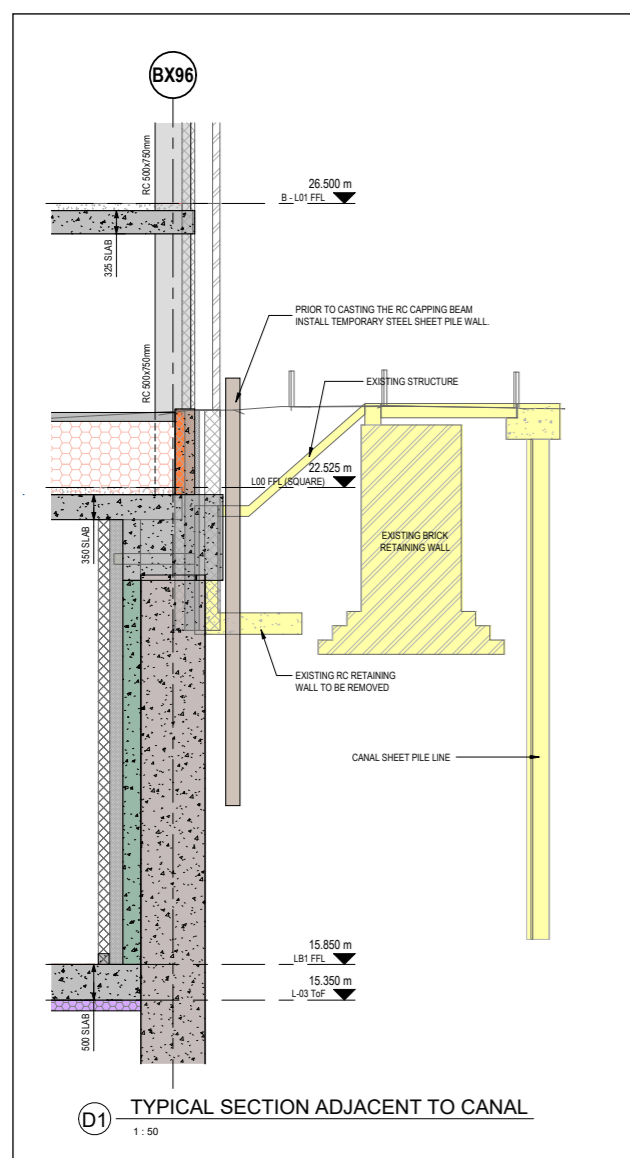

Figure 06: Section showing existing retaining wall to be removed.
- 25 The proposed pile locations clash with a number of existing site structures, including an L-shaped concrete wall running parallel to the existing canal wall, as shown in **Figure 06**.